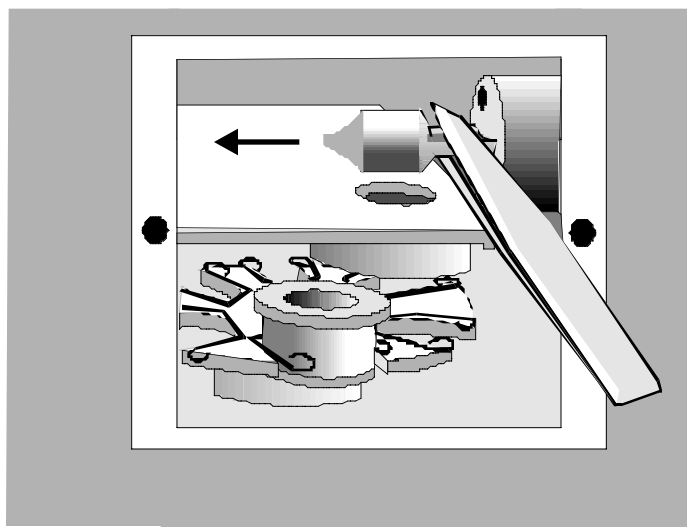

Figure 32. Removing the Lamp
- Grasp the lamp with plastic tweezers and pull the lamp out of its receptacle (Figure 32).